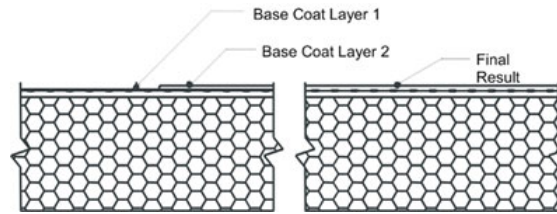

Figure 19
a. The base coat shall be applied such that the resulting overall minimum base coat thickness is sufficient to **fully embed** the reinforcing mesh. The recommended method is to apply the base coat in two (2) passes.
- 3) Allow the base coat mixture to take up until firm to the touch. Trowel a second tight coat of the base coat mixture over the first coat to **fully cover** the reinforcing mesh - Figure 19. The result should be such that the reinforcing mesh is approximately centered within the base coat thickness. Do not allow the first pass to completely dry prior to the second pass application or an excessive amount of base coat mixture will be necessary to fully coat the wall surface.